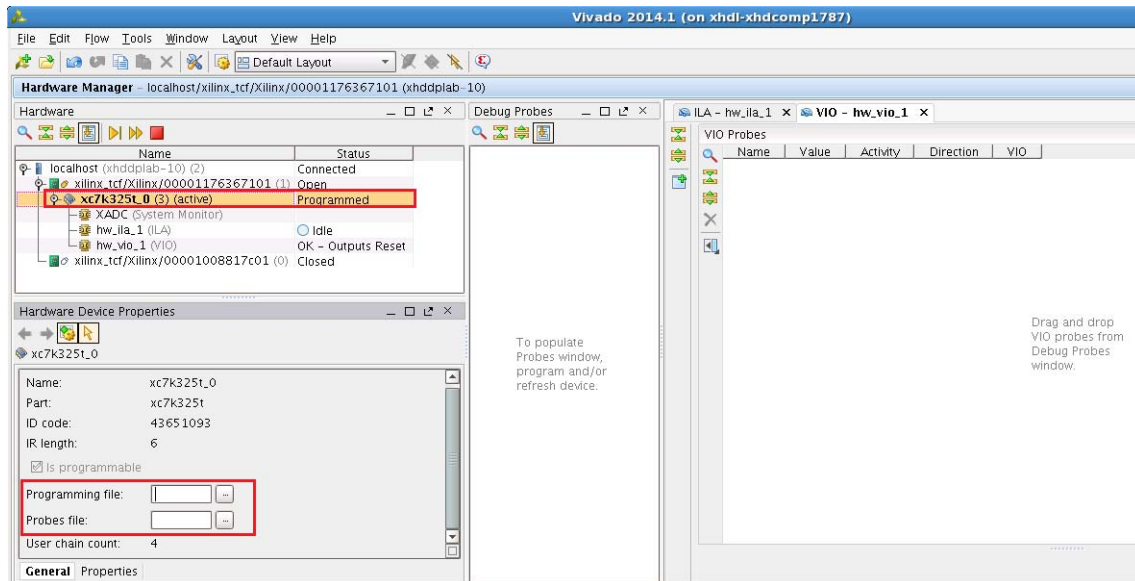

Figure 22: Hardware Device Properties
6. In the Hardware panel, click the active device, XC7K325T_0 (3) (Active).
- In the Hardware Device Properties panel, set **Programming file** to the bitstream file name for the receive platform and set **Probes file** to the appropriate .ltx probes file name (Figure 22).